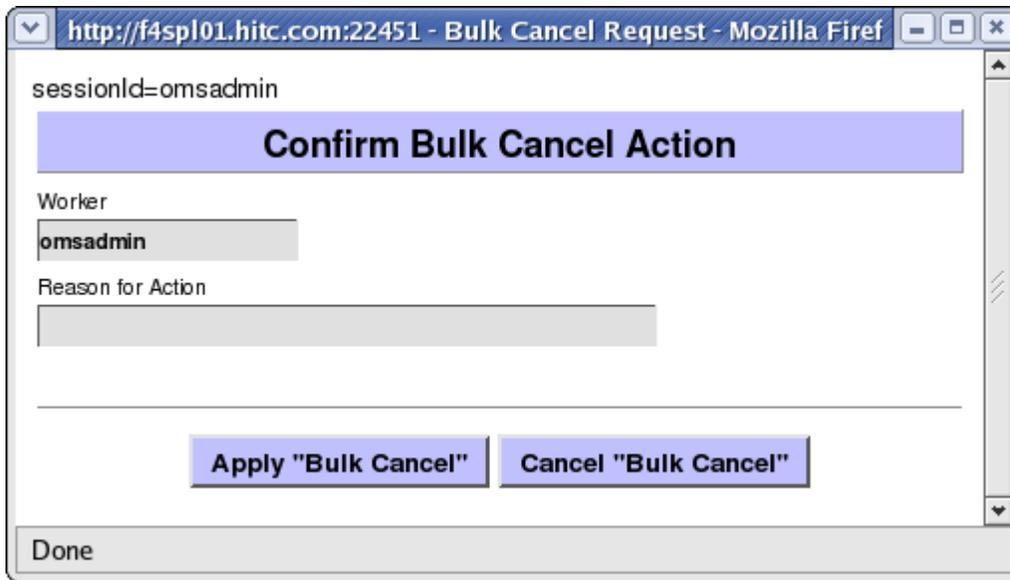

Figure 4.7.7-16a. Bulk Cancel Popup
The following additional option buttons are available on the Distribution Requests page as shown in Figure 4.7.7-16b.
- If there are Physical Media requests that are bulk cancelled the media volumes for these requests will be considered dismantled. The Bulk Cancel pop-up window is shown in Figure 4.7.7-16a.